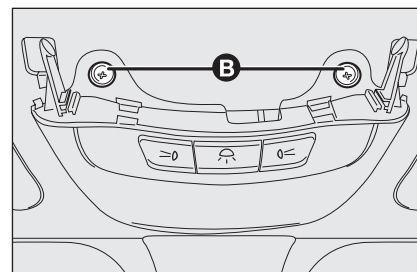

fig. 34
- ❑ loosen the two fastening screws **B**-fig. 34 to disassemble the unit;